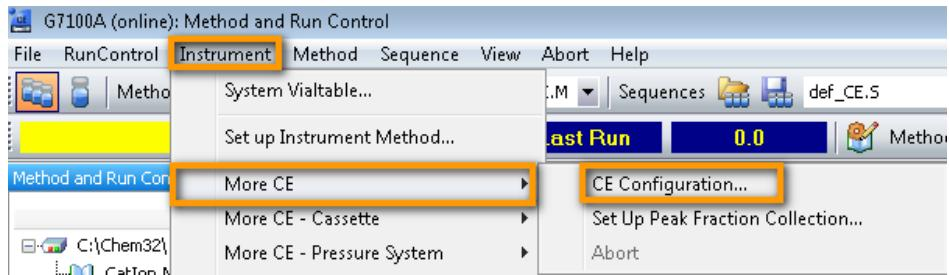

Figure 48 Configuration menu
- 5 From the instrument control screen select **Instrument > More CE > CE Configuration**, see **Figure 48**.